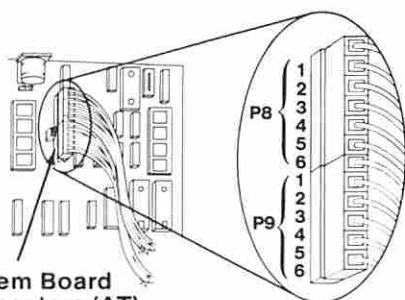

Figure 1. System Board Power Connectors
- Check for a voltage of -10.8 to -12.9 Vdc between pins 4 and 5 (ground) of system board power connector P8, Figure 1 on page 1200-3.